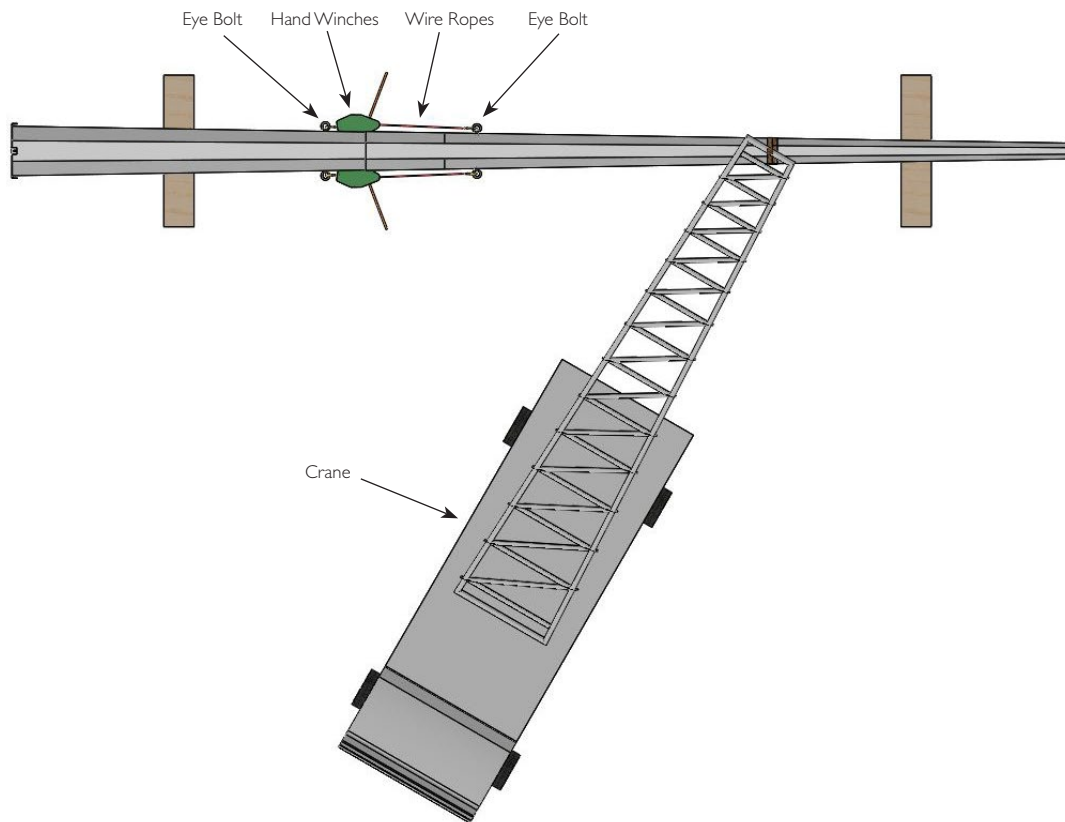

Figure 4.
- 3.15 Centre the lifting crane as shown in figure 4. All lifting tackle must be checked for its capacity and adequacy for the mass of pole being lifted.